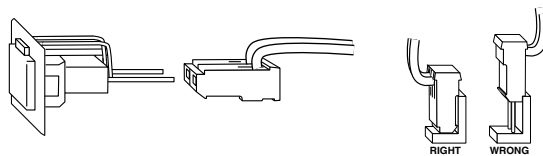

Figure 37. Be careful to maintain PSB cable polarity at both ends.
- Disconnect the cable from the PSB or LED, and take note of the plug polarity. Carefully insert the PSB or LED in the hole and check the fit. Plug in the PSB cable so that the cable exits the plug on top for PSBs as shown in Figure 37. If an LED or PSB does not light up when testing the system later, simply reverse the polarity of the plug.